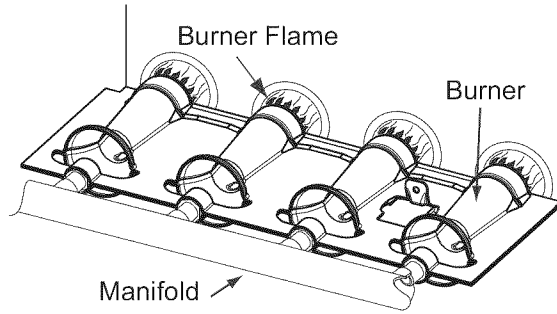

Fig. 59 - Burner Flame
8. Reverse items 6 through 1 for reassembly.
11. Check furnace operation through 2 complete heat operating cycles. Look at burners. Burner flames should be clear blue, almost transparent. (See Fig. 59.)